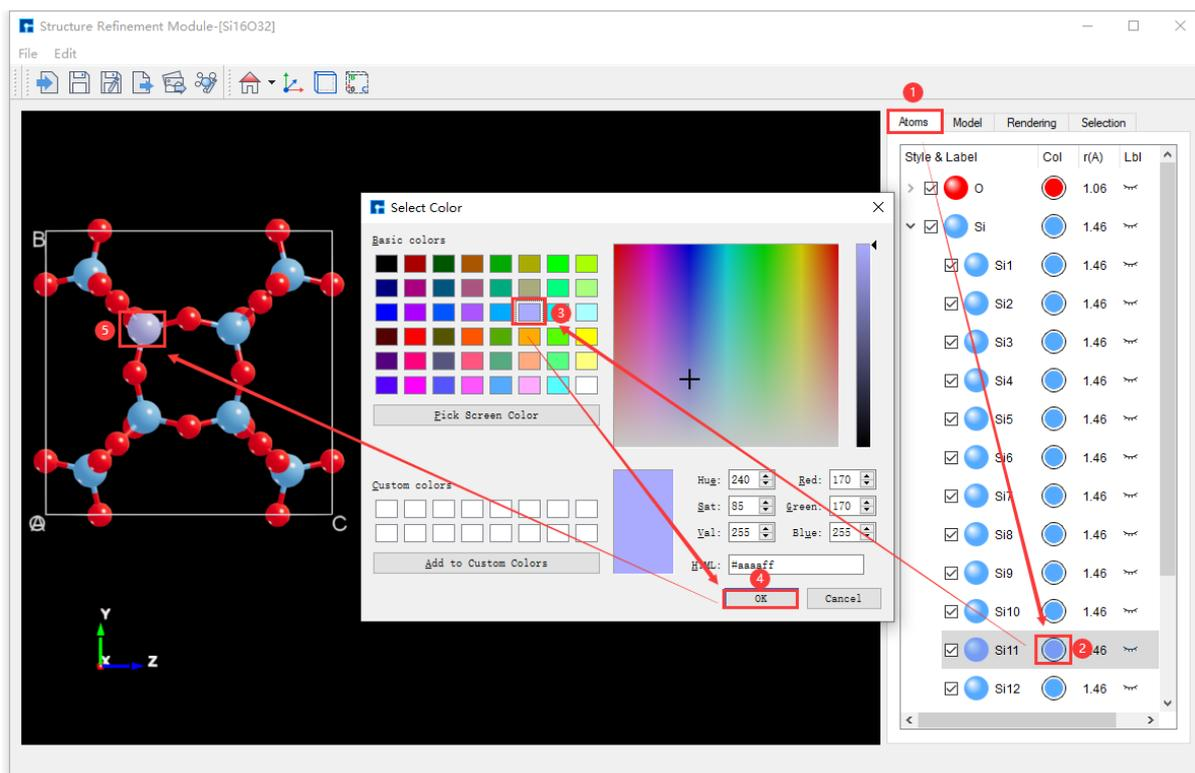

fig. 6.31: Unselected atoms: Modify the color of the Si11 atom in the Si16O32 crystal structure to RGB value [170 170 255] in the operation interface.
1. Method 1: Without selecting the Si11 atom, as shown in fig. 6.31, the interface for modifying the color of the Si11 atom in the Si16O32 crystal structure to RGB value [170 170 255] is displayed;